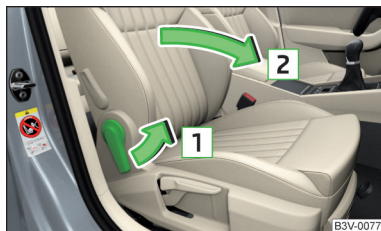

Fig. 68
- To **fold down**, pull the lever in direction of arrow 1, fold the seat backrest in the direction of arrow 2 » Fig. 68. The locking mechanism must audibly snap into place.